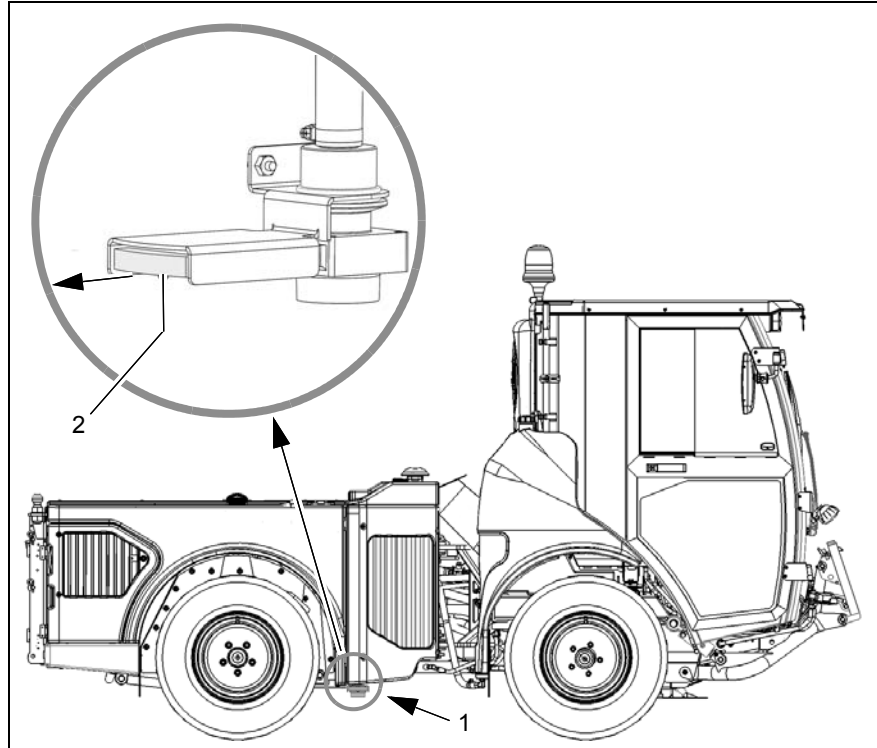

Fig.4
The valve of the drain is located next to the wheel case (Fig. 4/1).
- To open, pull out the handle (Fig. 4/2) of the valve